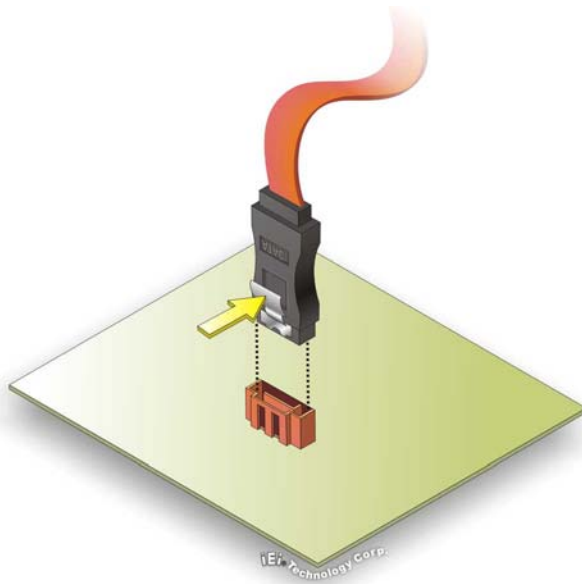

Figure 4-10: SATA Drive Cable Connection
Step 2: Insert the cable connector. Press the clip on the connector at the end of the SATA cable and insert the cable connector into the on-board SATA drive connector. See **Figure 4-10**.